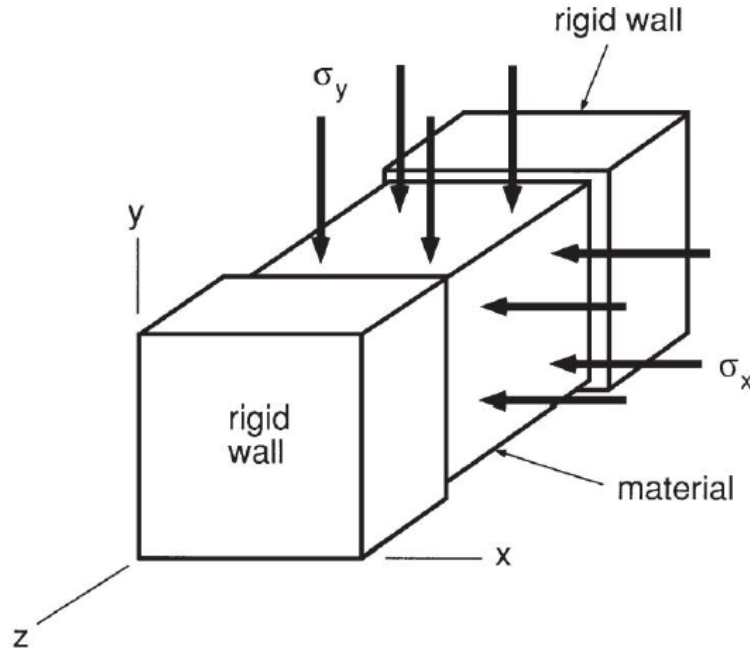

Figure P5.25
5.25 A block of isotropic material is stressed in the x - and y -directions, but rigid walls prevent deformation in the z -direction, as shown in Fig. P5.25. The ratio of the two applied stresses is a constant, so that $\sigma_y = \lambda\sigma_x$.